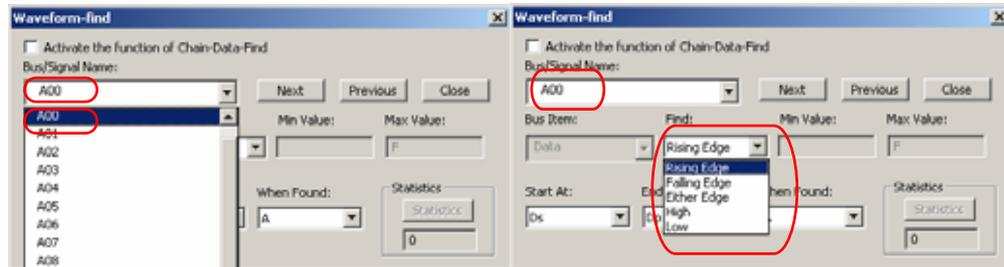

Fig 3-121: Waveform-find Dialog Box of the Logic Signal
**Step 3.** Choose the character for Find. The list of characters depends on whether it is a Bus, Signal, or the protocol analyzer such as I2C, UART, SPI, etc., which is being searched (See Figs 3-121, 3-122, 3-123, 3-124, 3-125, 3-126, 3-127, 3-128 and 3-129).